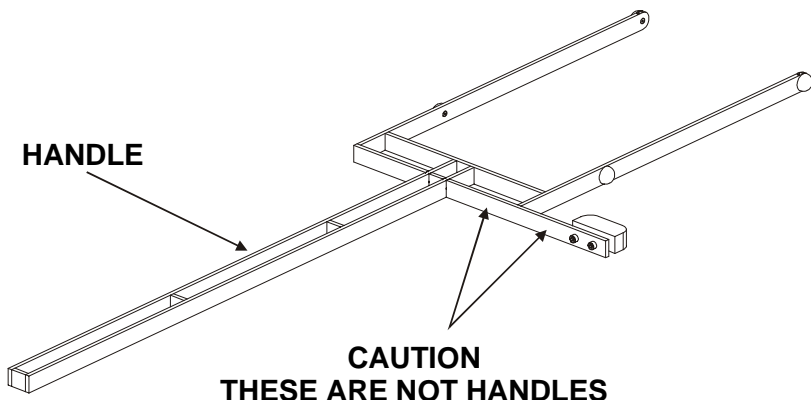

Figure 2-1. Basket Carrier
- ◆ Use the basket carrier to move hot sample baskets (see Figure 2-1). Always keep the basket carrier to the left side of your body, with the handle between your body and the open oven door. This helps prevent the operator from backing into the hot insulation on the inside surface of the door.